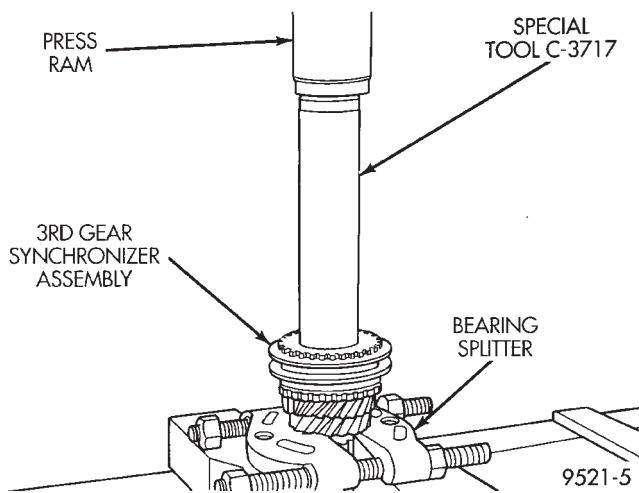

Fig. 99 Press On 3rd Gear Synchronizer Hub
- (1) Place input shaft into shop press.
- (2) Install 3rd gear caged needle bearing on input shaft.
- (3) Install 3rd gear and 3-4 synchronizer onto input shaft. Install Tool #C-3717 over input shaft and press on synchronizer hub and 3rd gear (Fig. 99). The synchronizer hub has the letter **U** stamped on the top face of the hub. This designates that the hub must be installed with the **U** facing upward.